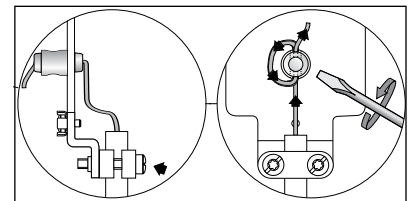

Figure 5: Aircraft cable shortening
6. Feed aircraft cable back through safety catch making sure to complete one full loop and tighten locking screw. [Figure 5]